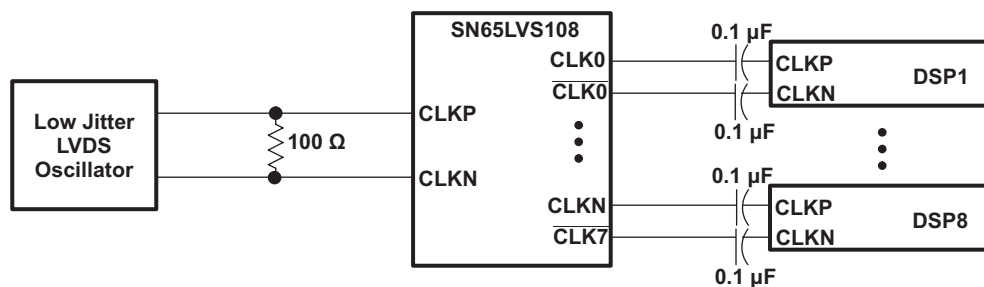

Figure 7. Multiple Devices LVDS Clock Solution
- TI SN65LVDS108 LVDS 1:8 clock fanout buffer (see Figure 7)